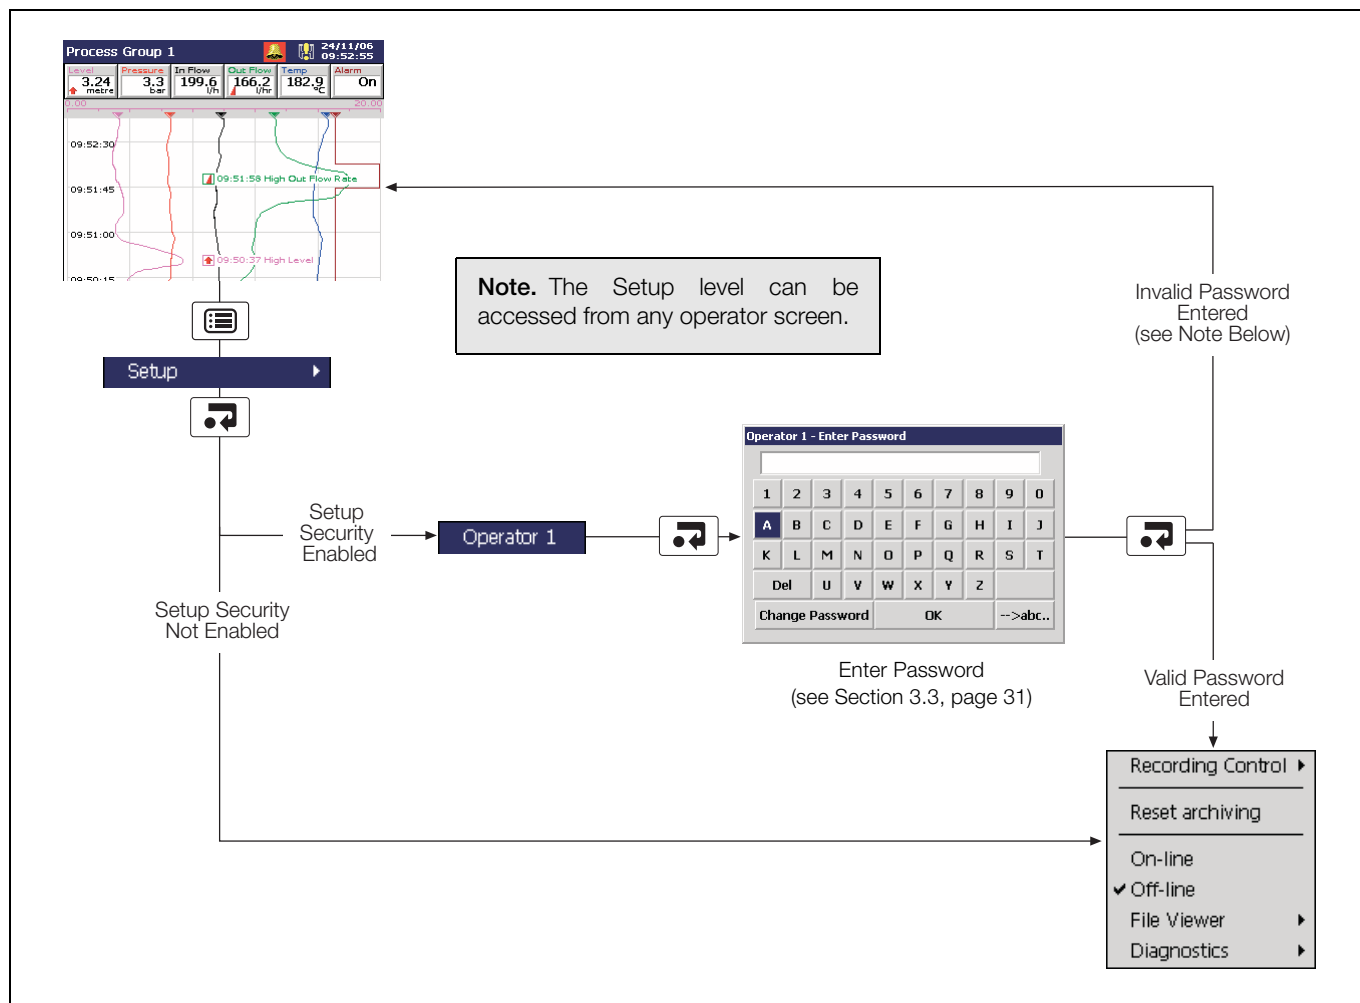

Fig. 3.2 Accessing the Setup Level – Advanced Security
3.2 Accessing the Setup Level – Figs. 3.2 and 3.3
- If 'Security System' is set to 'Basic' and 'Setup Level Security' is set to 'On', access to the Setup Level is protected by a single password for all users. Refer to Fig. 3.2 to access the Setup Level.